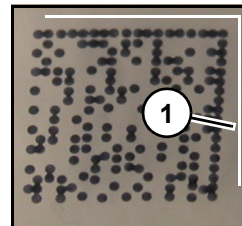

Figure 9
Well A1 is situated on bottom right corner of Array Tape when it is loaded. "L" (1) (Figure 9) outlining outside of 2D code will be positioned on top and right edges of 2D code.